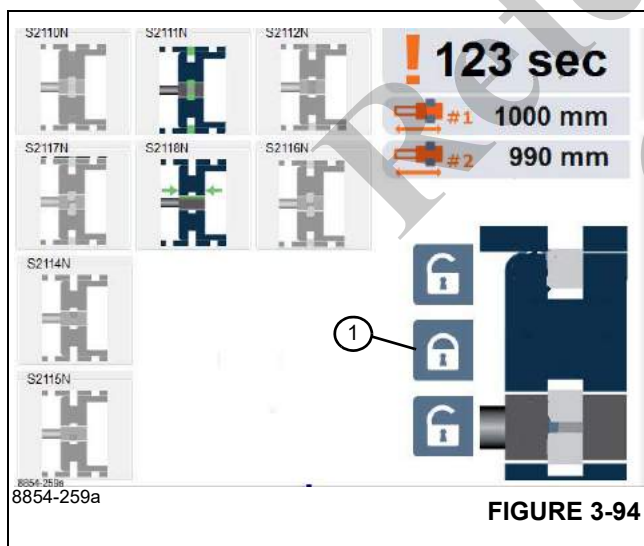

FIGURE 3-94
The telescopic section can be locked (if the actuator is able to release the section pins, and the telescoping boom section is actually aligned with a pinning hole). The screen should appear as shown in (Figure 3-94). In particular, S2111N should be ON.
If the telescopic section is locked (typically indicated by (Figure 3-94), you can now attempt to unlock the telescoping cylinder.
Under no circumstances should you select and press the lock symbol (1), (Figure 3-94) while the tele cylinder is in motion.
The telescoping cylinder is locked, if the actuator is able to release the cylinder pins, and the tele cylinder is actually aligned with a pinning location hole in the boom section. The screen should appear as shown in (Figure 3-94).